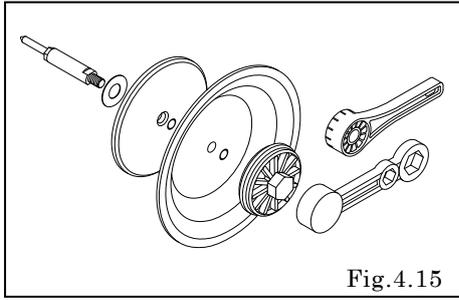

Fig.4.15
- Install the O ring at the center disk. (□T type, AD-10□C and AD-10□N types) [Fig. 4.14, Fig. 4.15]
- Apply the screw locking agent and tighten the center disk with dedicated tool. (part No.771244 :AD-25P□, AD-25V□ type or part No.771868 :AD-40P□, AD-40VT, AD-50P□, AD-50V□ types) [Fig. 4.15]